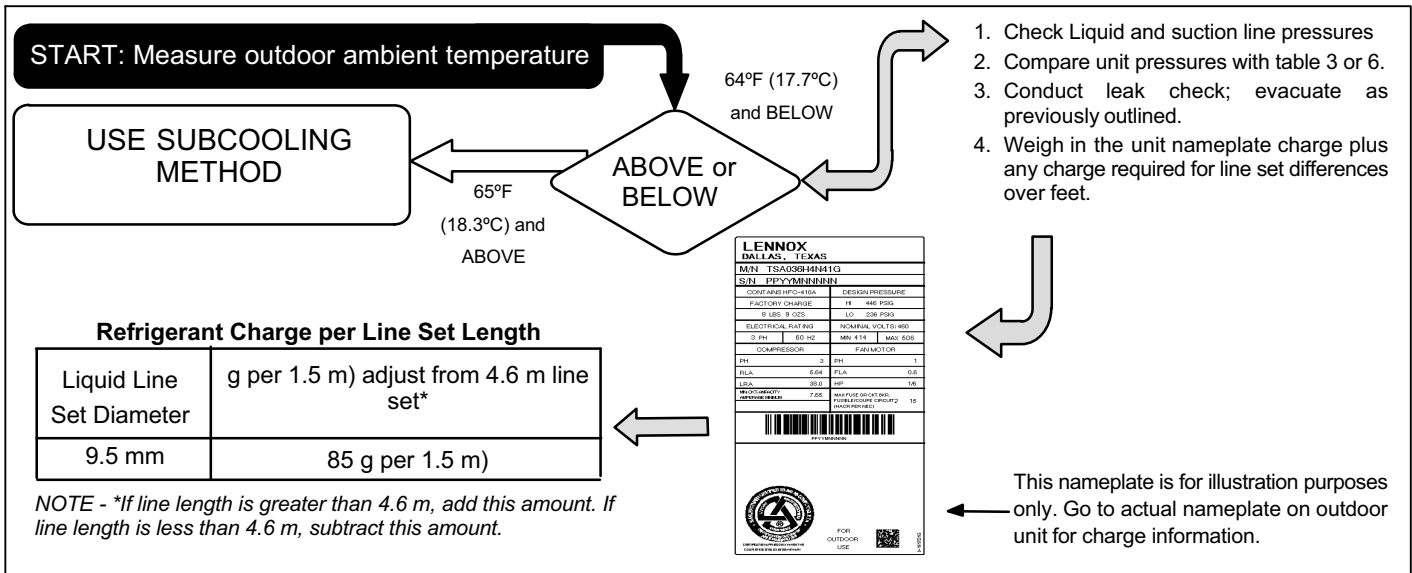

Figure 19. HFC-410A Weigh In
5. Weigh in refrigerant using procedure outlined under figure 19.